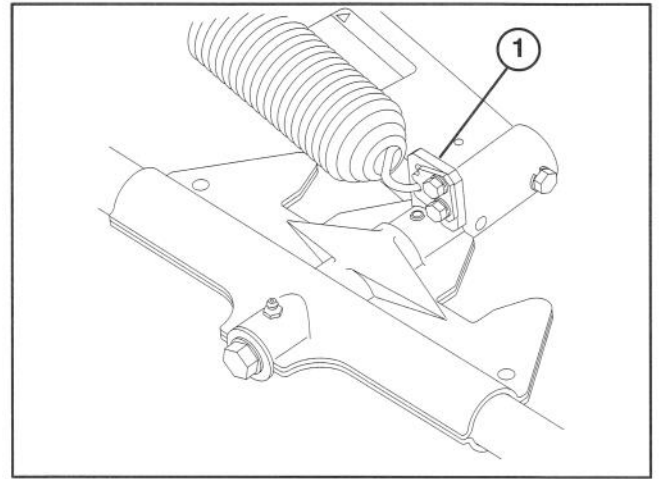

Figure 10
3. Hook one end of spring into bottom hole on front cutting unit lift tab and top hole on rear cutting unit lift tab (Fig. 10).